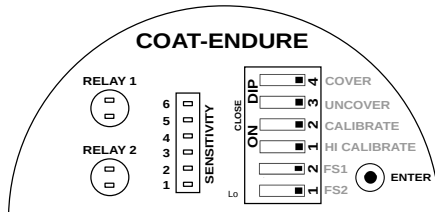

Figure 16: Saving Calibration
- Release the ENTER key and set the HI CALIBRATE switch back to OPEN position as shown in Figure 16.